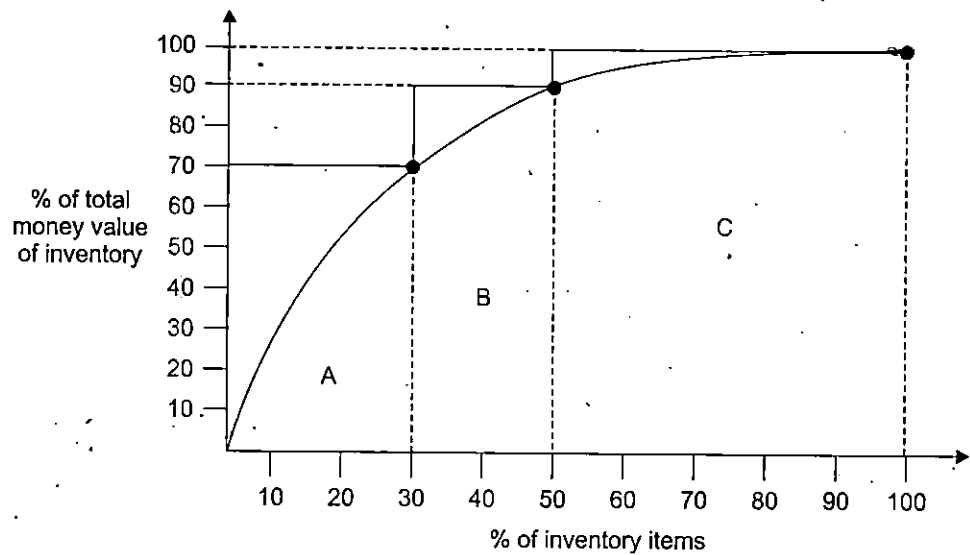

Fig. 9.13
Assume 70% of the total annual cumulative value items are category 'A' items $0.70 \times 1905500 = 1333850$. This value is close to 1350000 for items 2, 4 and 8. These are classified as 'A'; items upto 90% of the total annual cumulative value items are 'B' category $90 \times 1905500 = 1714950$ this is close to the figure of 1740000 and hence items 5 and 6 can be classified as B items. The remaining items, i.e., 9, 10, 3, 1 and 7 are classified as C items. Now, the graph can be prepared as shown in Figure 9.13,